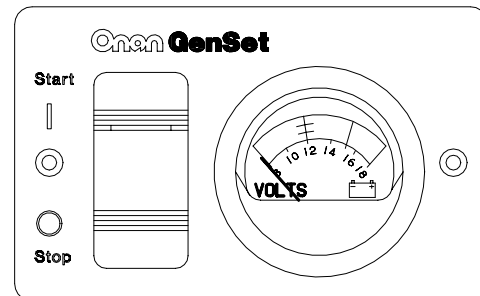

FIGURE 15. REMOTE CONTROL / DC VOLTMETER
- Remote start/stop switch with status indicator light and DC voltmeter (Figure 15).